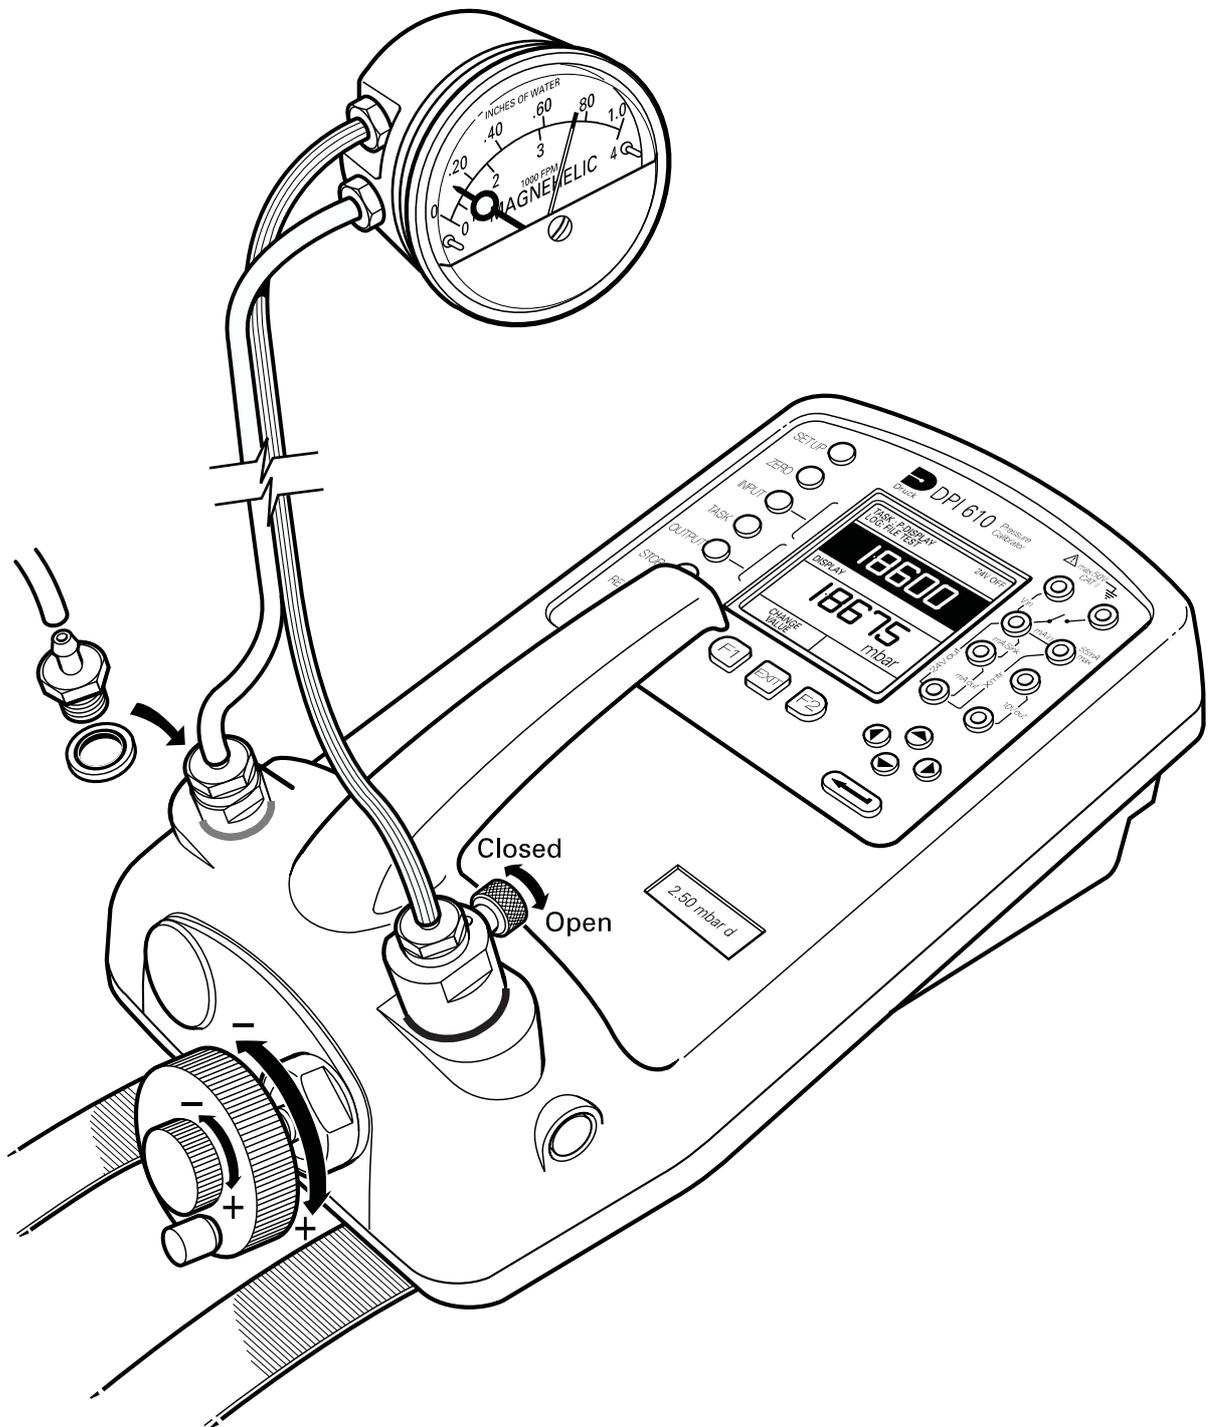

Figure B2 - DPI 610LP Test Connections
- ❑ Fit the an appropriate pressure fitting to both the positive (+) and negative (-) ports using a bonded seal as shown in Figure B2. Ensure that both fittings are tight.
Note: *To minimise temperature effects, always use double tubing, separating the arms of the tubing only by the minimum amount necessary to make the pressure connections. A typical application, P-DISPLAY, showing test connections to a Magnehelic pressure gauge are shown in Fig.B2.*